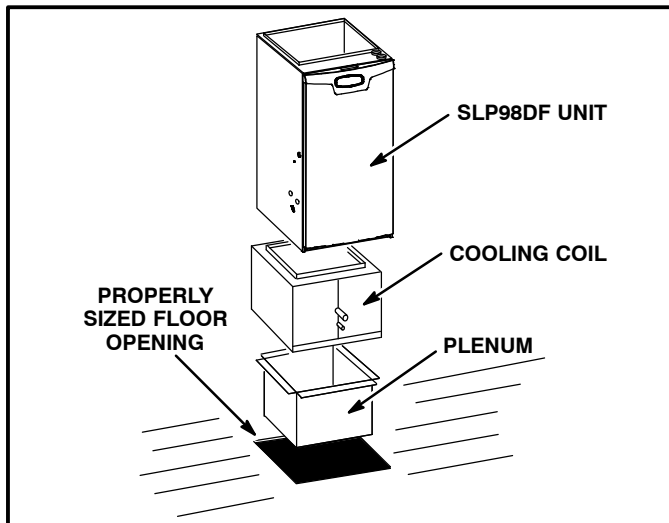

FIGURE 10
**Installation on Cooling Coil Cabinet (Figure 10)**